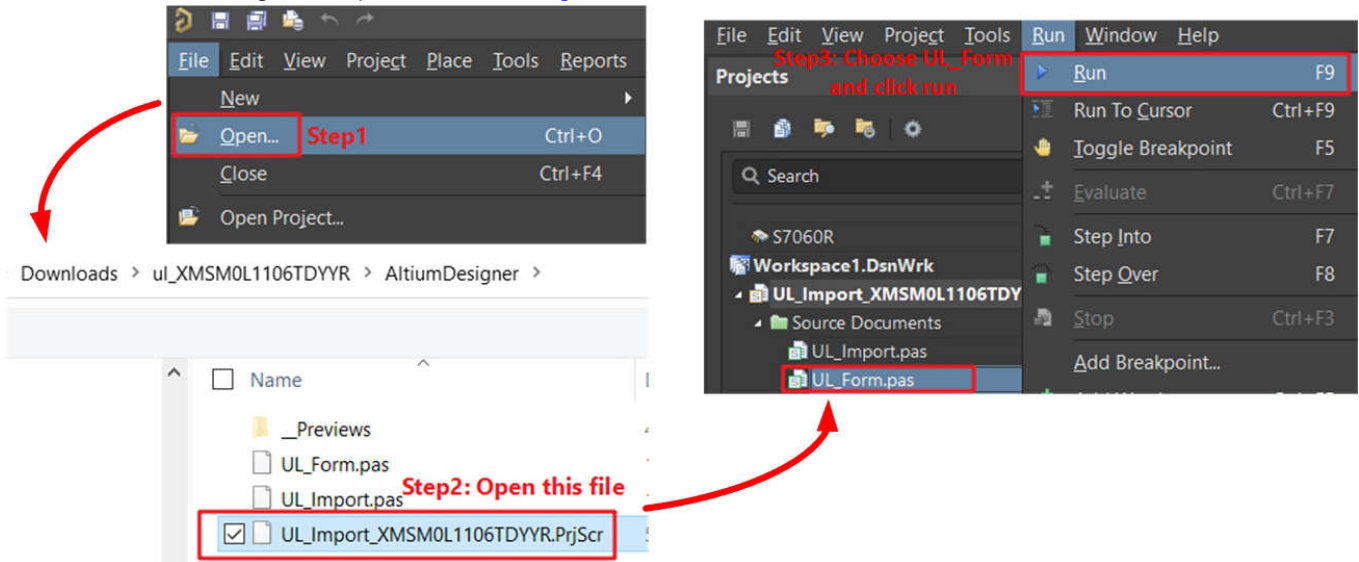

Figure A-14. Run Altium Designer Script
4. Run Altium Designer script as shown in Figure A-14.